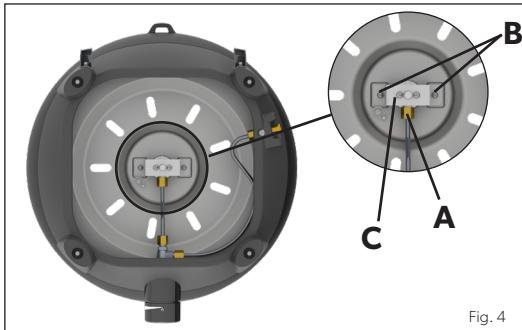
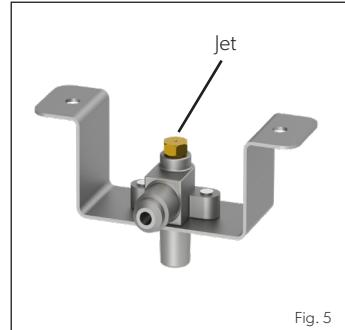

Fig. 4
Fig. 5
- We recommend to clean or replace the jets every six (6) months to ensure continued efficient operation of your appliance.
To replace the jet, remove all loose surfaces from your appliance and turn the base unit upside down. Using a suitable spanner, loosen the nut (A) (Fig.4). Unscrew the 2 screws (B) (Fig. 4). Remove the bracket (C) to expose the jet. (Fig. 5). Remove the jet using a suitable spanner. Do not use pliers on the jet as this may damage the jet, making it unusable or impossible to remove. Screw the new jet into the valve. Do not over-tighten as this may damage the jet.